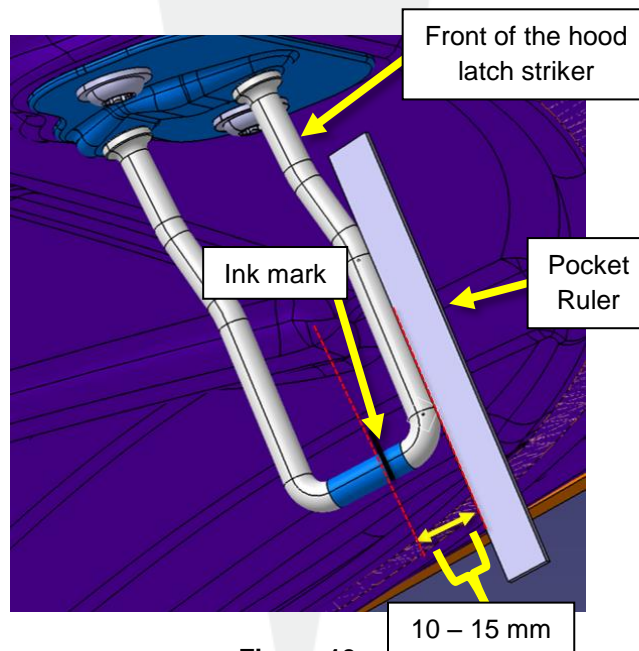

Figure 13
13. Measure the distance between the front of the hood latch striker and the ink mark left by the latch point on the hood latch using a pocket ruler and a digital caliper or ruler (Figure 13):